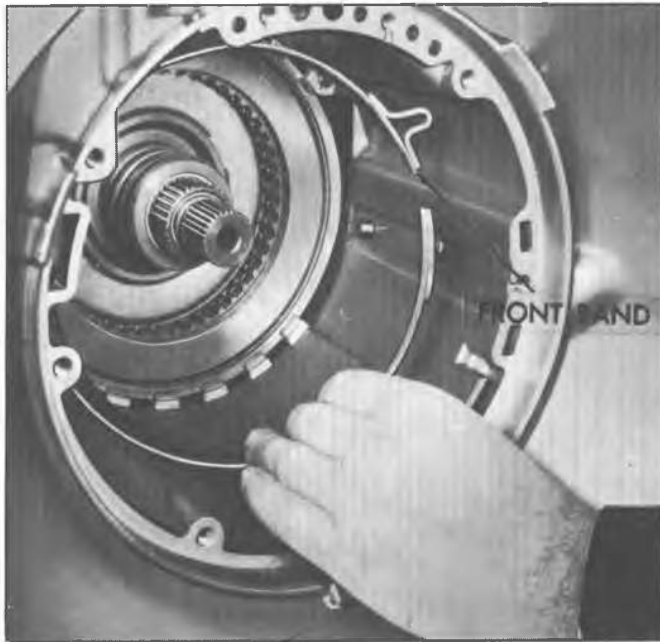

Fig. 7A-35C--Removing Front Band
9. Remove sun gear shaft (Fig. 7A-36C).